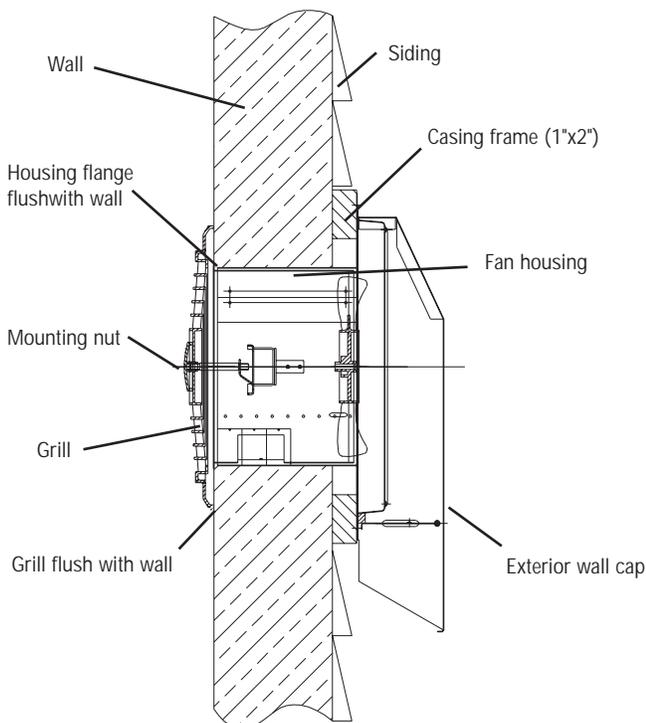

Figure 7
8. Wire the receptacle in the wire compartment cover to the house wiring (white to white, black to black) use approved electrical connectors and electrical tape. (fig 7)